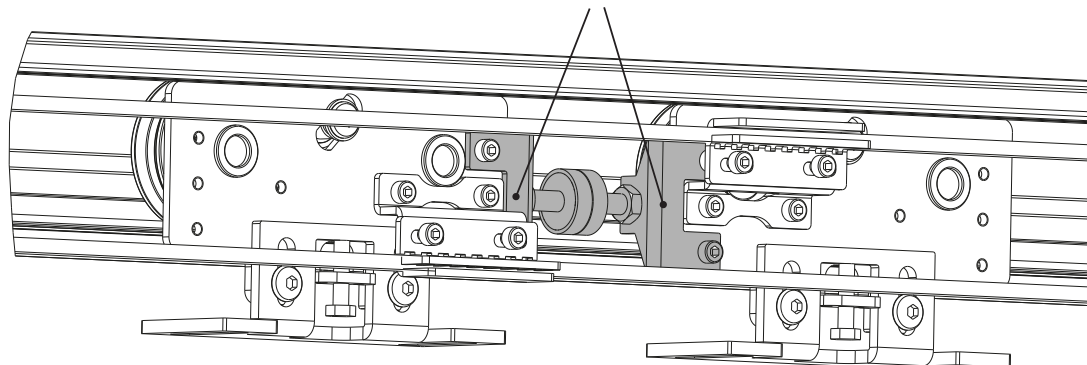

fig. 18
- 1) Fix on mobile carriages the appropriate door stop buffers of closing, as in figure 18